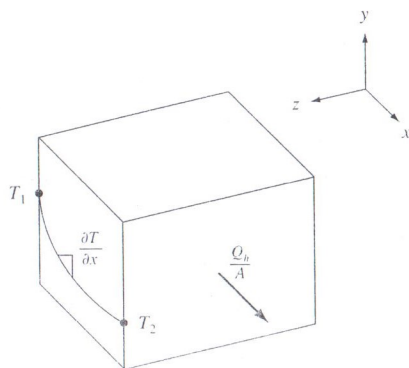

Figure 6.1 Conduction heat transfer in a continuous material.
**Thermal conduction** is the ability of solid or continuous media to conduct heat. The heat transfer  $\dot{Q}_h$  is related to the temperature gradient in the direction of heat flow  $dT/dx$  as shown by Figure 6.1 (The figure illustrates one-dimensional heat transfer; a more general case would be two or three-dimensional heat transfer.)